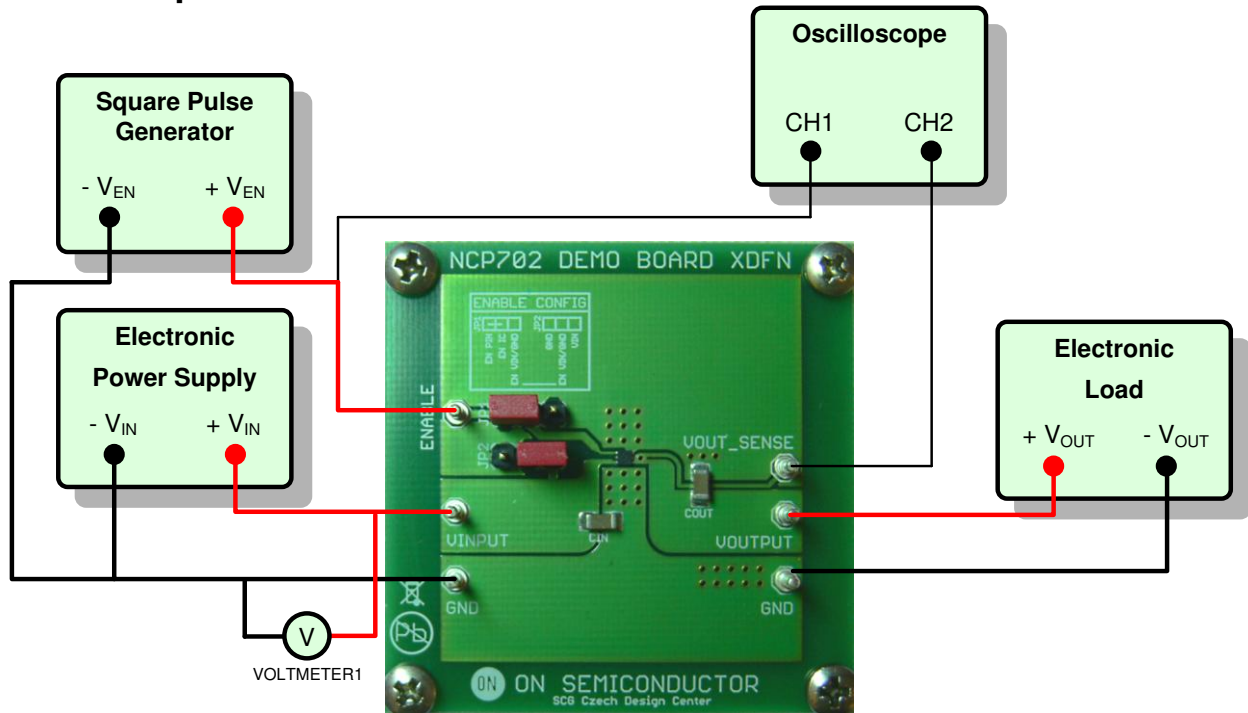

Figure 2. Test setup for the measurements of the Enable functionality
1. Connect the test setup as shown on Figure 2,